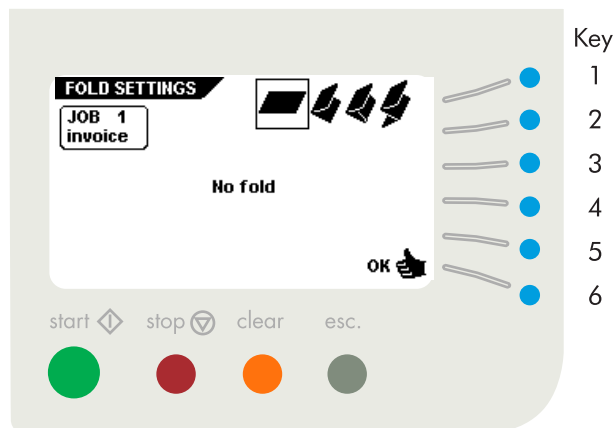

Fig. 43
When the "fold settings" menu is selected and key 3 is pressed in the "job settings" menu, the display shows the screen as shown in fig. 43. In this menu, the following choices are available by pressing key 1:
When no fold is selected, the display shows the screen as shown in fig. 43. The following choices are available: